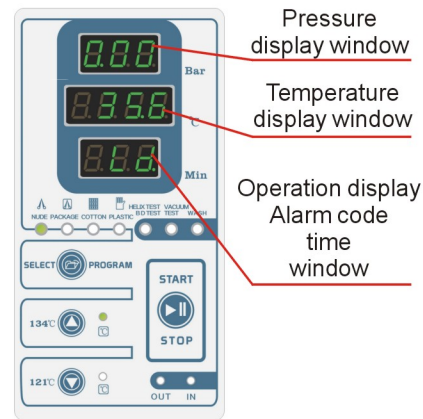

Fig.5.3-1
5.3 JY-A-18 JY-A-23 operation panel and function(Fig.5.3-1)